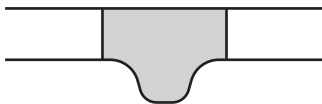

Fig. 2.1
- (a) Select a field of view so that you can observe the different tissues as shown by the shaded area in Fig. 2.1.
- (i) Draw a large plan diagram of the part of the leaf on **L1** shown by the shaded area in Fig. 2.1.